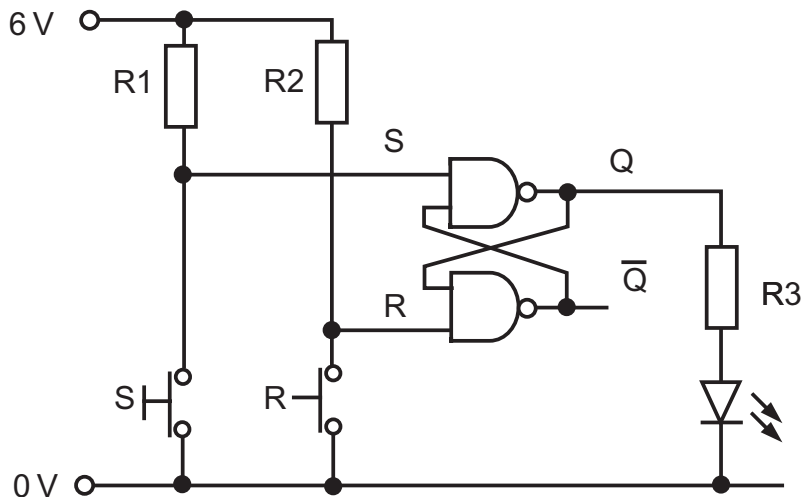

Fig. 9(a)
**9** Fig. 9(a) shows a logic circuit which uses switches as inputs and has an LED output.
- (a) (i) Name the type of logic gate used in the circuit shown in Fig. 9(a). [1]
- (ii) Name the arrangement of gates shown in Fig. 9(a). [1]
- (iii) Briefly explain the function of the resistors R1 and R2 in the circuit shown in Fig. 9(a). [2]
- (iv) Draw a truth table for the circuit shown in Fig. 9(a) for the inputs S and R and the outputs Q and  $\bar{Q}$ . [5]
(b) The LED in **Fig. 9(a)** is designed to work at a forward voltage of 1.8 volts and a current of 15 mA.
(i) Calculate the value of resistor R3 in **Fig. 9(a)** required to allow the LED to function safely. Assume that the output voltage corresponding to a logic high is 6 volts. [2]
(c) The circuit shown in **Fig. 9(a)** is to be modified to switch on a high voltage motor using a transistor and relay based circuit. Using an annotated circuit diagram show how this modification could be achieved. [4]